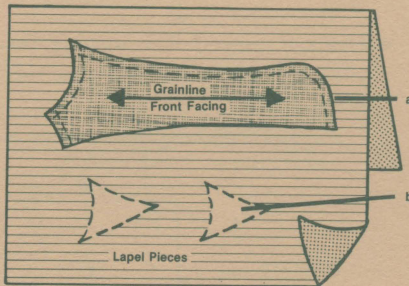

Figure 12. Cut one-way stretch fusible nonwoven interfacing according to grainline
- Cut in lengthwise direction using the front facing pattern piece (Figure 12, see point A).
- For additional firmness in the lapel, cut two triangular pieces from $\frac{1}{8}$ inch (3 mm) inside the roll line to the lapel point. Use the jacket front pattern piece as a guide, following the grainline (Figure 12, see point B).